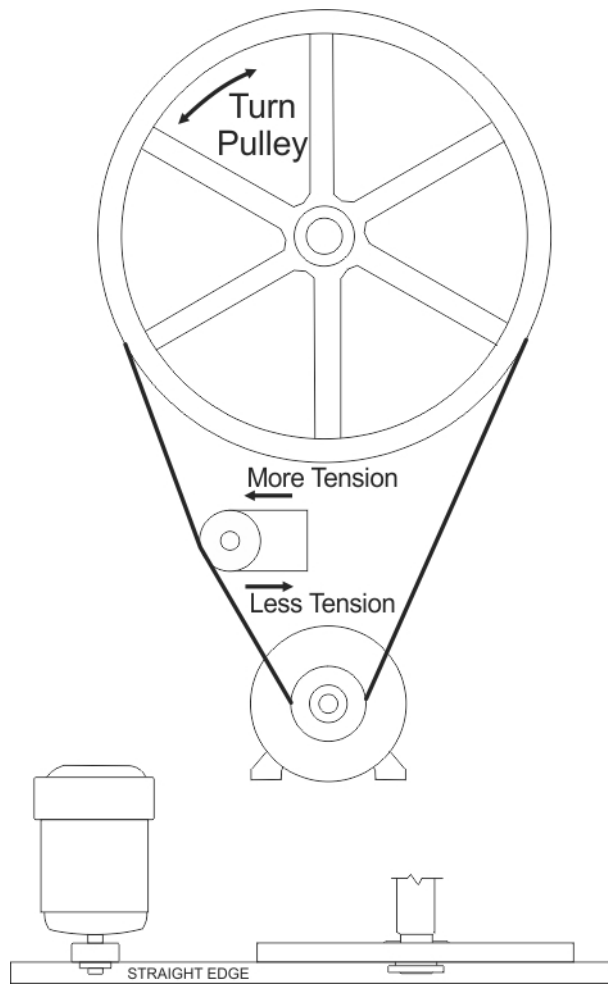

Figure 7.4: Belt Tensioning and Alignment
- (b) After disconnecting power to the machine and removing all panels necessary for access to the drive belts, use the following method to verify that the V-belts are properly tensioned. Belt deflection should be measured as close to the center of the span length as possible. A set force should be applied in the center of the length, as specified in the table below. Belt tension is adjusted by turning the set screw on the idler pulley. Turning the set screw clockwise tighten the belt, and vice versa. Refer to figures 7.4, 7.1 and 7.5 on pages 49 and 50.
- (c) Verify that V-belts are properly aligned by checking pulley alignment. Place a straight-edge across both pulley faces. The straight edge should make contact with the pulleys in four places. See figure 7.4 on page 49.